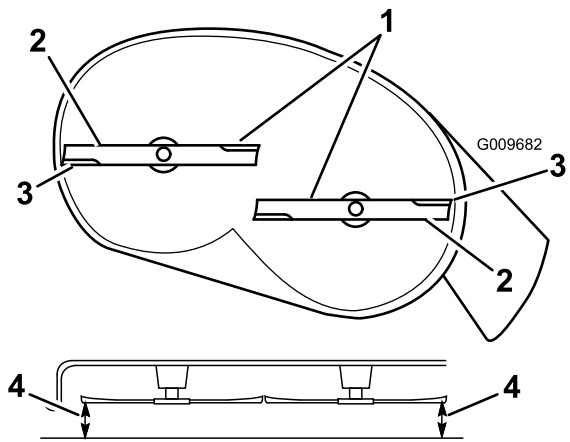

Figure 50
5. Carefully rotate the blade(s) side to side (Figure 50). Measure between the outside cutting edges and the flat surface (Figure 50). If both measurements are not within 3/16 inch (5 mm), an adjustment is required; continue with this procedure.